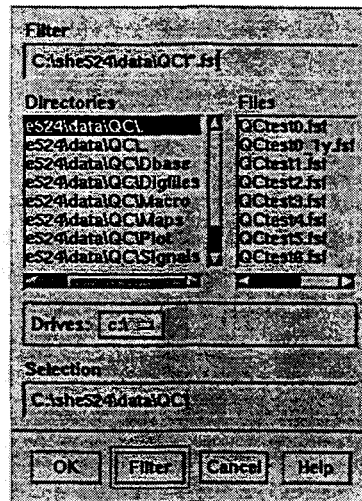

Figure 2 A file selection window.
**File** - the <file> button is located in the menubar in the upper part of a menu window. This facility is available on each opening menu and gives the opportunity to load or save a specification file for the actual task you are about to specify. Once you have activated **File** you get a file selection window as shown in Figure 2.
The file selection window is similar to the one you get by clicking on <File> as shown in Figure 2 and explained above. The only difference is that you have to close the window which is done by activating the <Cancel> push button;